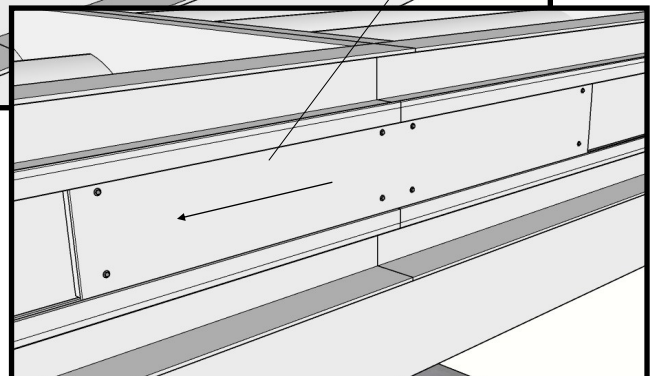

Fig 8
6. Once you have all of the frames together and positioned where they go, slide the splice plates over centered on the frame seam. (see fig 8) Secure with a dab of caulk.